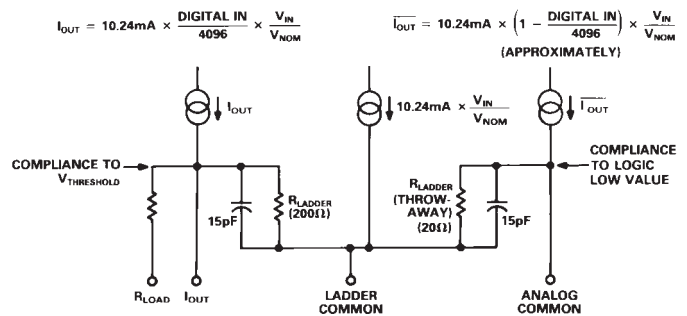

Figure 4. Equivalent Output Circuit
1Measured in  $I_{\text{OUT}}$  mode. Specified at nominal 5 V full-scale reference.2Measured in  $V_{\text{OUT}}$  mode, unless otherwise specified. Specified at nominal 5 V full-scale reference.3Total resistance. Refer to Figure 4.4At the major carry, driven by HCMOS logic.5 $V_{\text{OUT}} = 1 \text{ V p-p}$ ,  $V_{\text{IN}} = 10\%$  to  $110\%$ , 100 kHz. Digital Input All 1s.6 $V_{\text{IN}} = 200 \text{ mV p-p}$ , 1 MHz Sine Wave. Digital Input all 0s. See Figure 20.7Measured at  $15 \text{ V} \pm 10\%$  and  $12 \text{ V} \pm 10\%$ .Specifications shown in **boldface** are tested on all production units at final electrical test.
The AD668 has an output compliance range of -2.0 V to +1.2 V (with respect to the LCOM pin). The current steering output stages will be unaffected by changes in the output terminal voltage over this range. However, as shown in Figure 4, there is an equivalent output impedance of 200  $\Omega$  in parallel with 15 pF at the output terminal, producing an equivalent error current if the voltage deviates from the ladder common. This is a linear effect which does not change with input code. Operation beyond the maximum compliance limits may cause either output stage saturation or breakdown, resulting in non-linear performance. The positive compliance limit is not affected by the positive power supply, but is a function of the output current and the logic threshold voltage at  $V_{TH}$ , Pin 13.
The internal wiring and pinout of the AD668 are dictated in large part by current management constraints. When using low impedance, high current, high accuracy parts such as the AD668, great care must be taken in the routing of not only signal lines, but ground and supply lines as well. The following accounting provides a detailed description of the magnitudes and signal dependencies of the currents associated with each of the part's pins. These descriptions are consistent with the functional block diagram as well as the equivalent circuits provided in Figures 4, 5, and 6.
**IOUT** – the output current. In the current output mode with this node tied to a virtual ground, a 10.24 mA nominal full scale output current will flow from this pin. In the voltage output mode, with  $R_L$  grounded, half of the output current will flow out of  $R_L$  and the other half will flow out of LCOM. External resistive loading will cause current to be divided between LCOM,  $R_L$ , and  $I_{OUT}$  as Figure 4 suggests.
**ACOM** - as indicated in Figure 4, the current flowing out of this pin is effectively the complement of IOUT, varying with both analog and digital inputs. Using this current as a signal output is not generally advised, since it is untrimmed and its positive output compliance is limited to the logic low voltage.